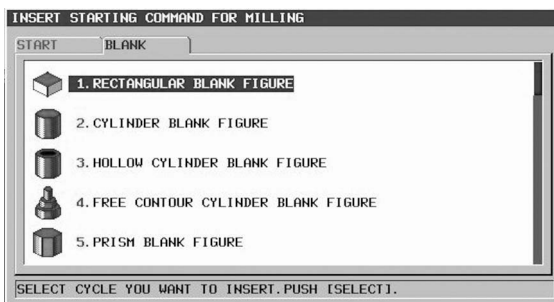

Figure 7-43 RECTANGULAR BLANK FIGURE
- Then press the START soft key (Figure 7-42). Use the cursor key to advance to the BLANK tab and then select 1. RECTANGULAR BLANK FIGURE from the list (Figure 7-43). Press the SELECT soft key.